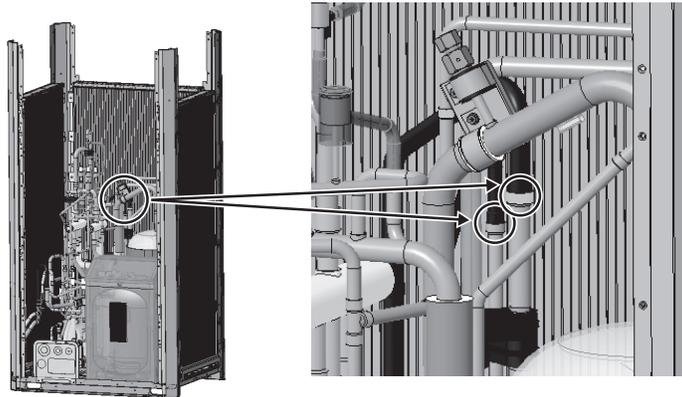

Fig. 23 Brazing point of the rear heat exchanger piping
- (1) Remove the brazing from the piping. (Two areas to remove brazing: Fig. 23)